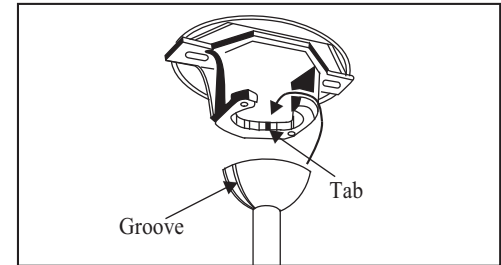

Figure 7
4. Carefully lift the fan assembly up to the ceiling mounting bracket and seat the hanger ball in the mounting bracket socket. Make sure the tab on the mounting bracket socket is properly seated in the groove in the hanger ball (Figure 7). This will help to balance the ceiling fan.
THE TAB IN THE RING MUST REST IN THE GROOVE OF THE HANGER BALL AS FIGURE 7. FAILURE TO PROPERLY SEAT THE TAB IN THE GROOVE COULD CAUSE DAMAGE TO WIRING.